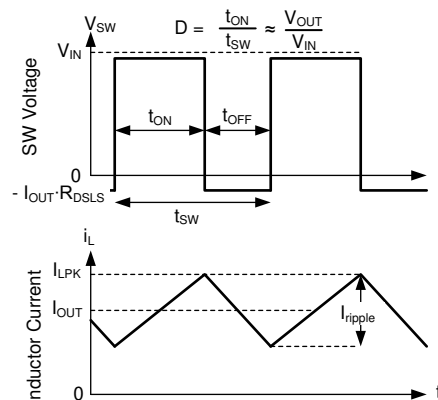

図 7-18. SW Voltage and Inductor Current Waveforms in Continuous Conduction Mode (CCM)
The following operating description of the LM644A2-Q1 refers to Functional Block Diagram and the waveforms in 図 7-18. Both supply a regulated output voltage by turning on the internal high-side (HS) and low-side (LS) NMOS switches with varying duty cycle (D). During the HS switch on-time, the SW terminal voltage, V_{SW} , swings up to approximately V_{IN} , and the inductor current, i_L , increases with a linear slope. The HS switch is turned off by the control logic. During the HS switch off-time, t_{OFF} , the LS switch is turned on. Inductor current discharges through the LS switch, forcing V_{SW} to swing below ground by the voltage drop across the LS switch. The regulator loop adjusts the duty cycle to maintain a constant output voltage. D is defined by the on-time of the HS switch over the switching period: $D = T_{ON} / (T_{ON} + T_{OFF})$.